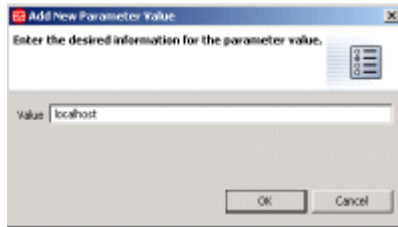

Figure 9-56 Add New Parameter Value window
31. Enter **local host** in the Value text field as shown in Figure 9-56 on page 475.